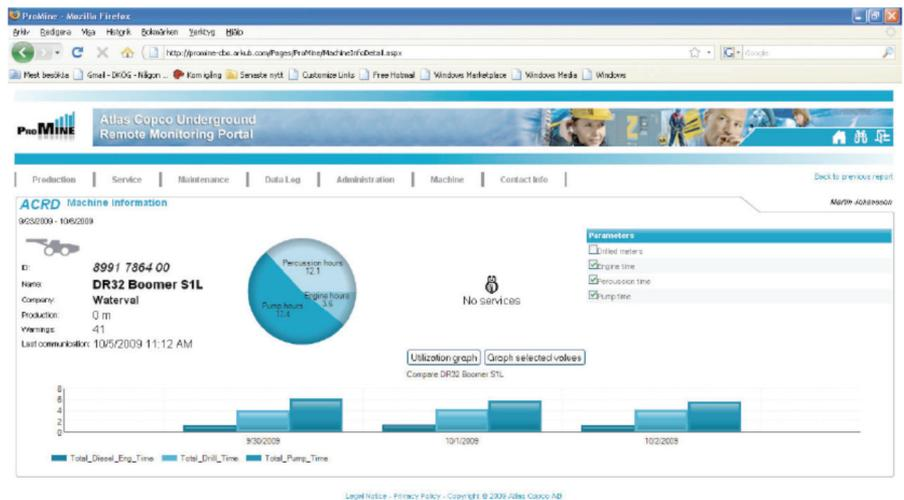

Figure 5. Machine utilization statistics
- Machine utilization (refer Figures 5 and 6)